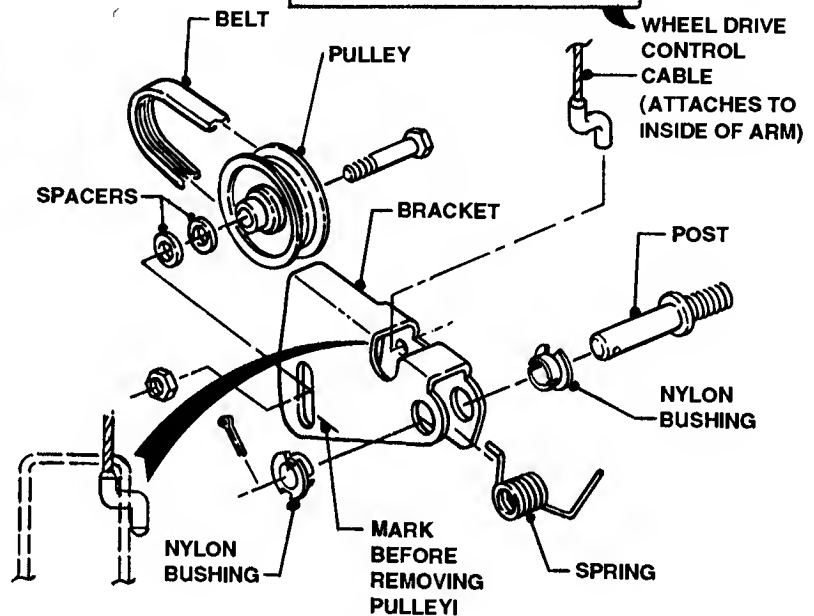

FIGURE 3.17
13. Remove Idler Pulley from bracket (MARK IDLER LOCATION!). See Figure 3.17.